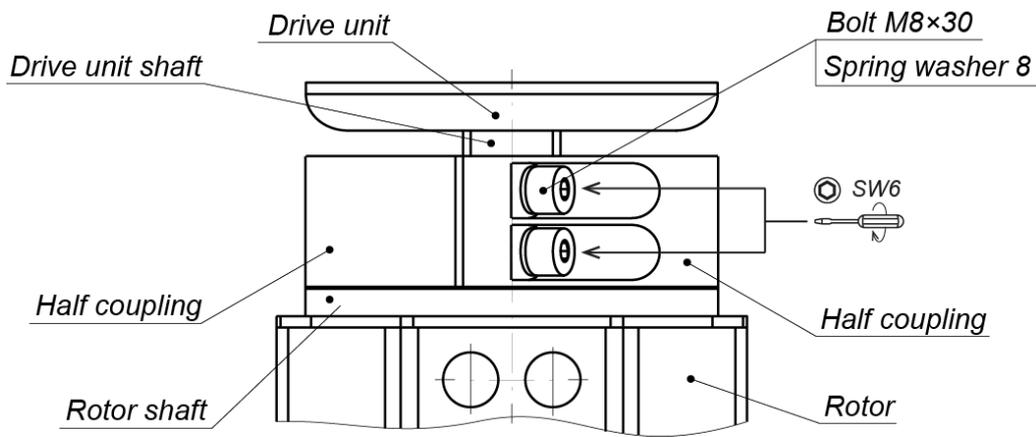

Figure 19. Juncture (4) of the operating mechanism shaft with the rotor shaft by the union joint (1)
- Join together the upper rotor shaft with the shaft of the drive unit of operating device with two half couplings, four bolts M8×30 and spring washers (hex-nut wrench SW6) (Fig. 19).
2. Unscrew 4 bolts M8 from the union joint (4) and take off the half couplings (Fig. 19). Be carefully! Keep the rotor and half couplings from falling down.